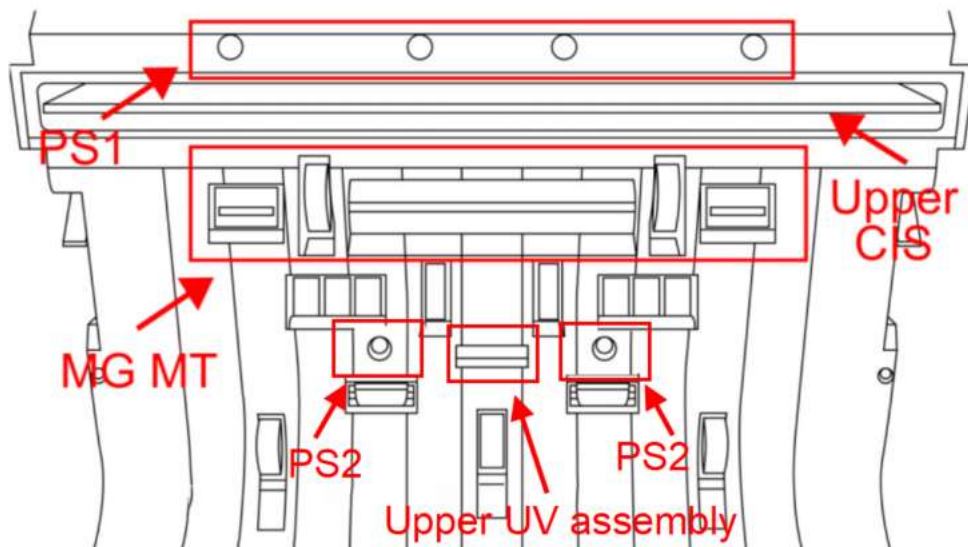

Figure 132
3) As in Figure 132, wipe the upper CIS sensor in one direction with a dust-free cloth, then clean the upper UV, PS1, PS2, MG, and MT sensors with a clean brush.